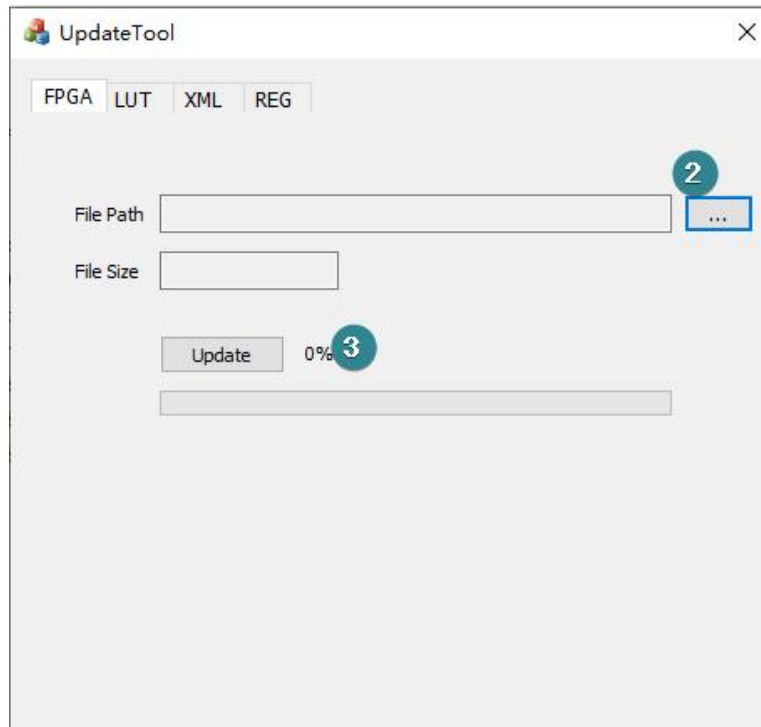

Figure 4-12 Update Tool interface
- 1) Double-click to run the UpdateTool tool, and the interface is shown in Figure 4-12;